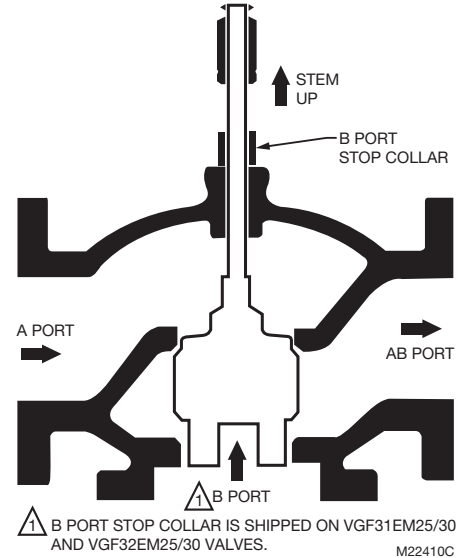

Fig. 21. VGF31EM mixing valve operation.
Figs. 21 and 22 show 3-way valves in the fully closed position, with no flow between the A port and AB port.
### Mixing Valve (Fig. 21)
*VGF Mixing Valves are assembled through the lower (B) port. The B port stop collar (see Fig. 21) holds the stem and plug assembly in the bonnet. Ensure the stem remains raised while servicing the valve or installing stem extensions. The stem collar provides a hard stop for direct-acting MP953 pneumatic actuators, and should not be removed.*